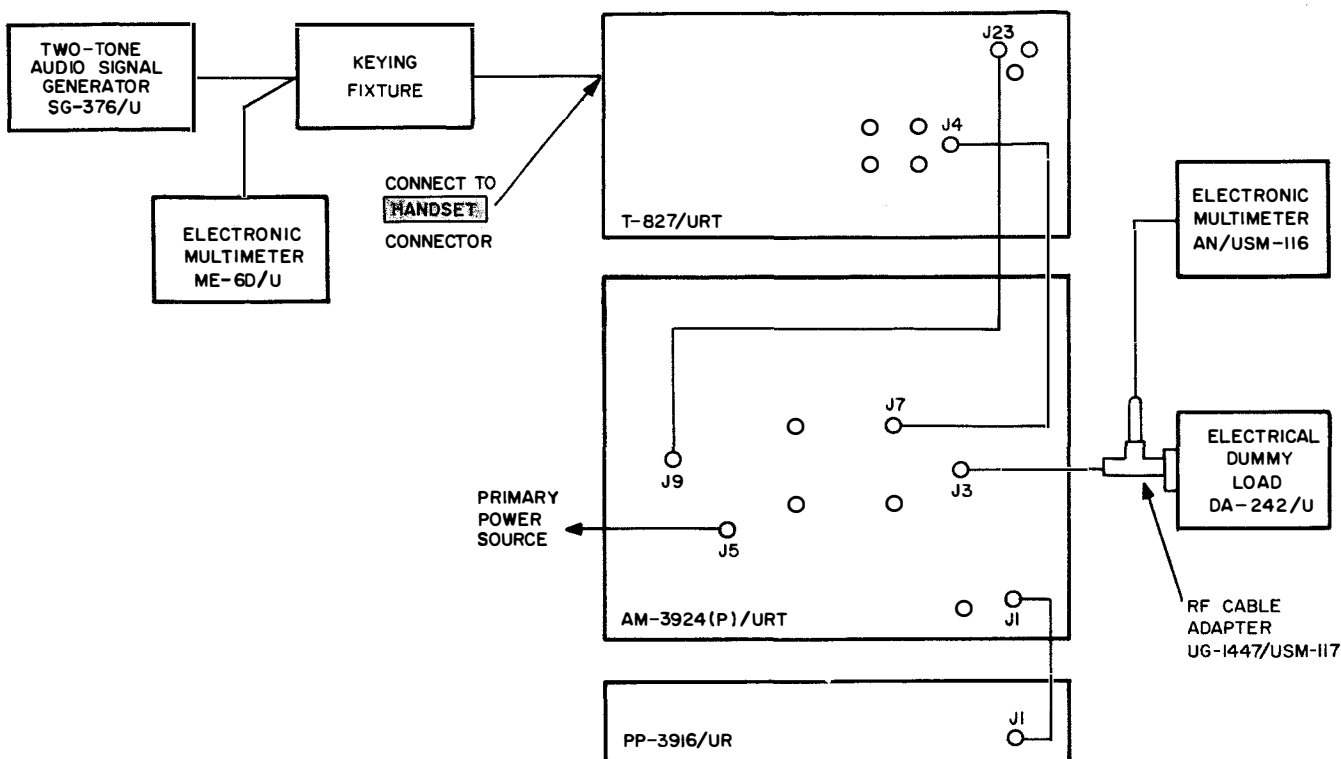

Figure 2-6. Preliminary Adjustments, Test Equipment Connection Diagram
- a. Connect all equipment as shown in figure 2-6. Turn all test equipment on.